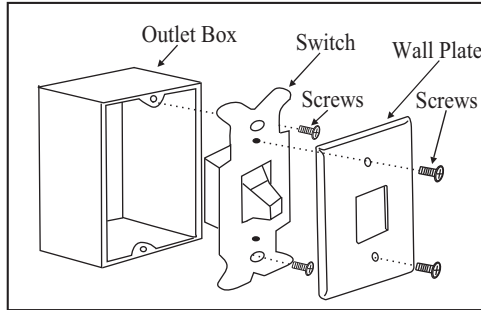

Figure 9
1. Disconnect the power and remove the existing wall plate and switch from the wall junction box. (Figure 9).